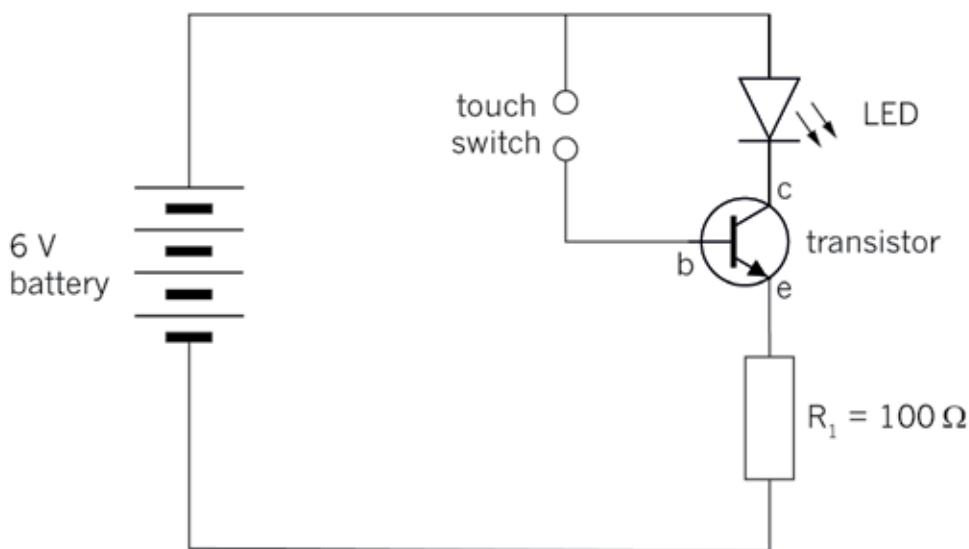

Figure 18: Circuit using a transistor as an electronic switch
Figure 18 shows a circuit that uses a transistor for this purpose. In this circuit, the touch switch is an “input device,” the *npn* transistor is a “control device,” and the LED is the “output device”.
1. The photograph below shows a circuit built according to the circuit diagram in Figure 18. Look at the photograph and identify each component in the circuit. Write labels for the different components and draw arrows pointing from the labels to the components.